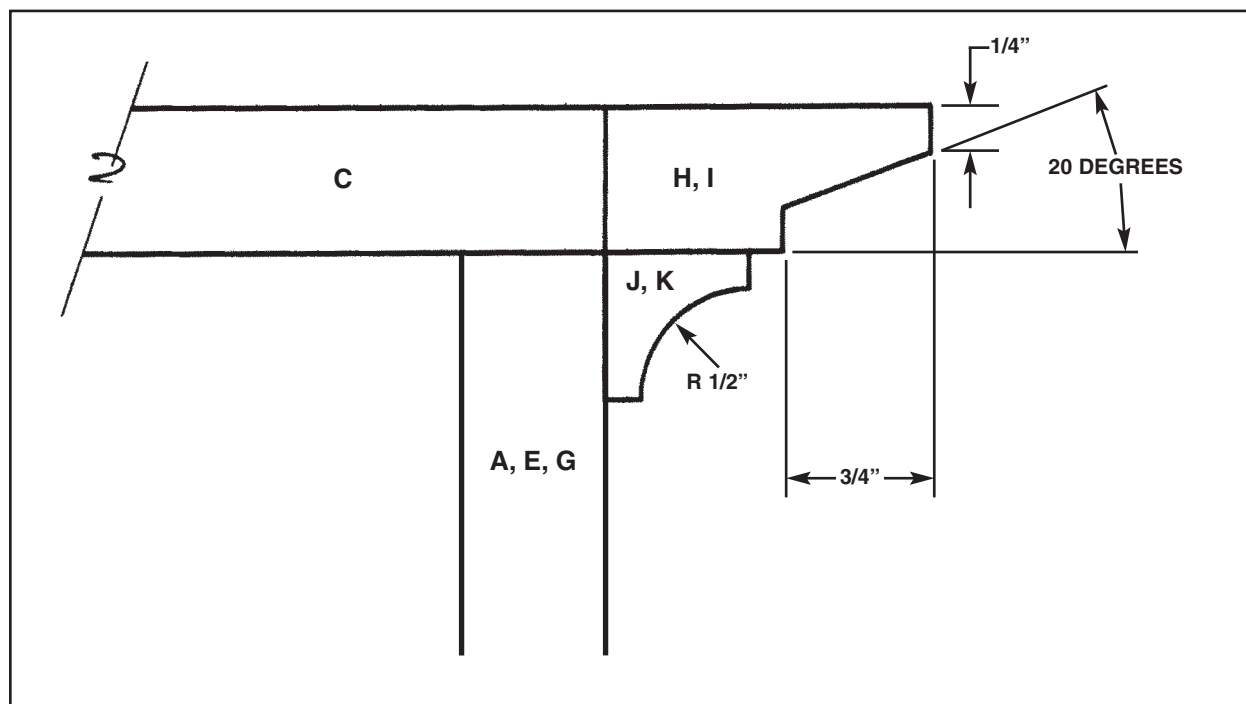

Figure 5
8. Attach molding (H), (I), (J) and (K) with glue and clamps. Refer to Figure 5.